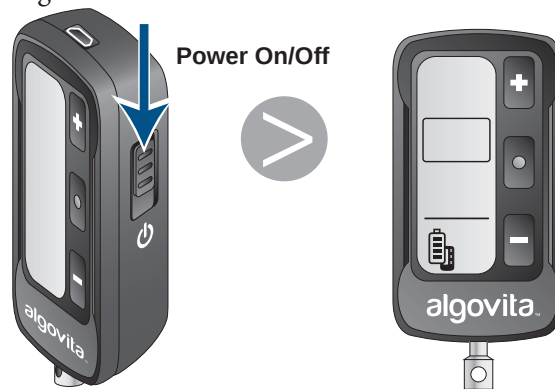

Figure 34. Turning power on or off
2. Slide the black Power On/Off button down (*Figure 34*) and hold for approximately 2 seconds. While your Pocket Programmer is establishing communication with your stimulator, a rectangle scrolls down the screen.
- Slide the Power On/Off button down and hold for 2 seconds (*Figure 34*).